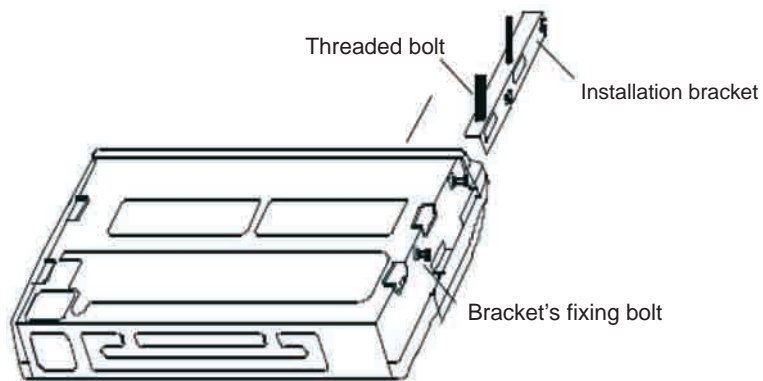

Fig. 3.2.13
3. Fix Indoor Unit to installation brackets, then make it slide along the brackets' slots (see Fig. 3.2.13).